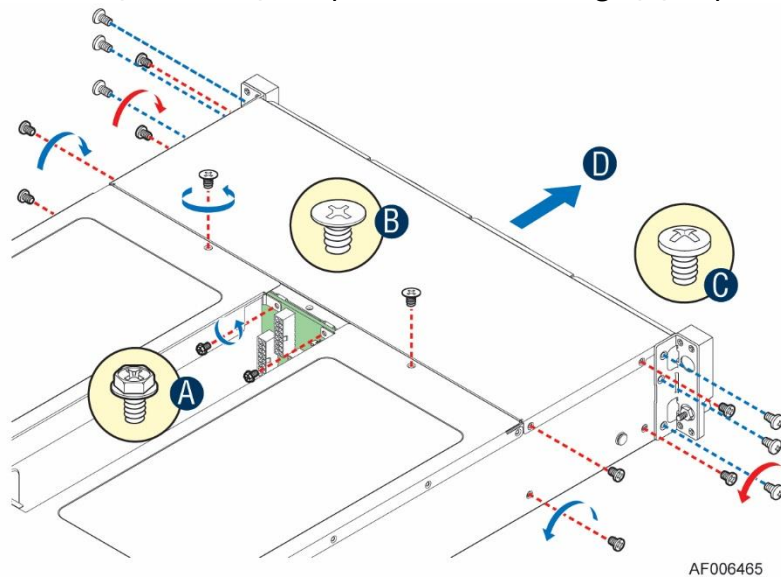

Figure 48. Removing the drive cage
4. Remove the drive cage screws (A, B and C) and pull out the drive cage (D) as pictured in Figure 48.